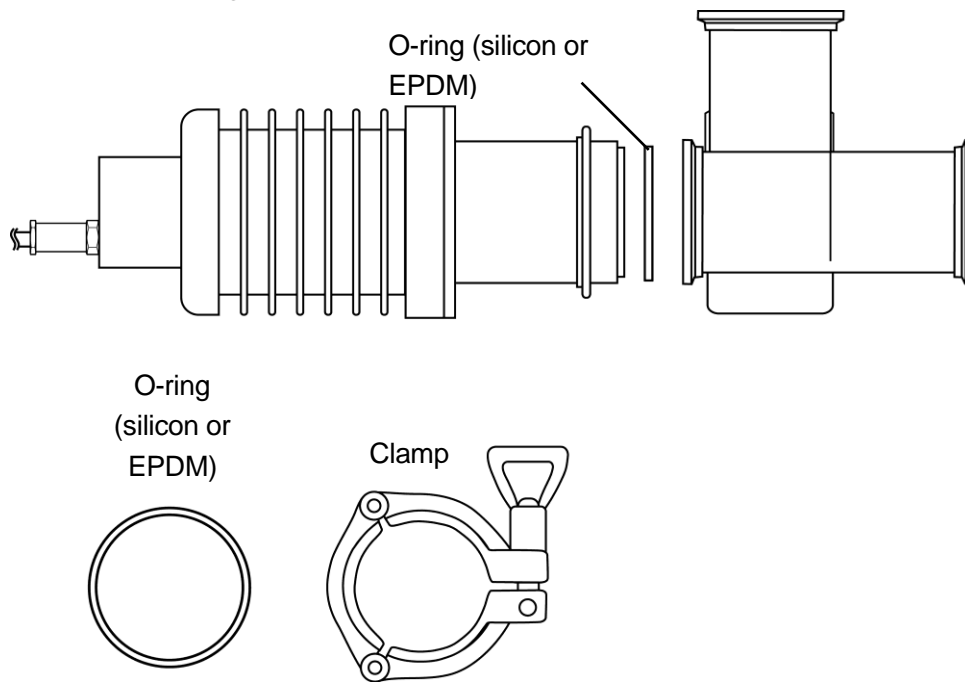

Fig. 5-2
(2) Mounting the Sample Inlet Unit (Fig. 5-2)